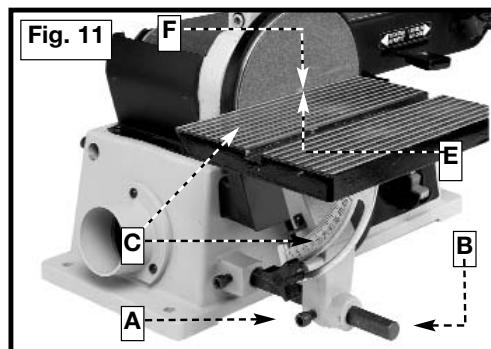

Fig. 11
2. Slide the table assembly (C) Fig. 11 on the rod (B).
3. Thread an M8 x 1.25 x 20mm hex socket head screw (A) Fig. 11 into the hole in the table support bracket. Align the flat on the rod (B) with the screw (A). Tighten the screw (A).
**⚠ WARNING:** To avoid trapping the work or fingers between the table and the sanding disc, the table edge (E) Fig. 11 should be positioned a maximum of 1/16 in. away from the sanding disc (F). Loosen the screw (A) and adjust the table accordingly.